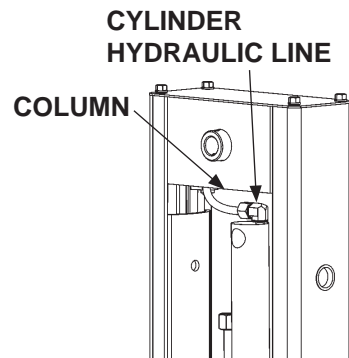

FIG. 26-3
11. Lower cylinder slowly to clear top of column. Disconnect hydraulic line on the top of cylinder (FIG. 26-3).